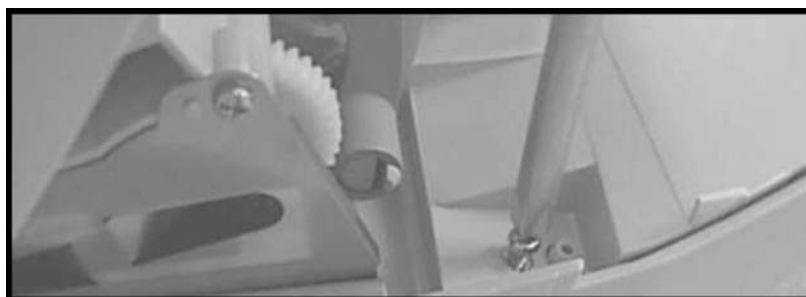

Figure 2
3. Remove the screw on the right side of the scanner beside the alignment pin as shown in Figure 2.